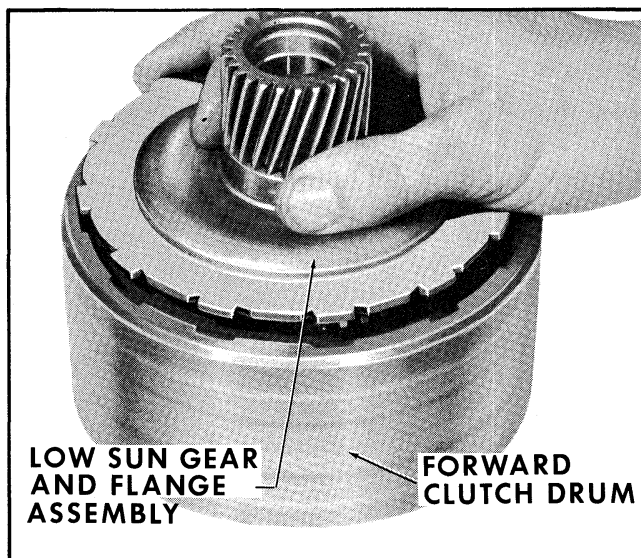

Fig. 7B-71 Removing Low Sun Gear and Flange Assembly
2. Remove low sun gear and flange assembly (Fig. 7B-71).